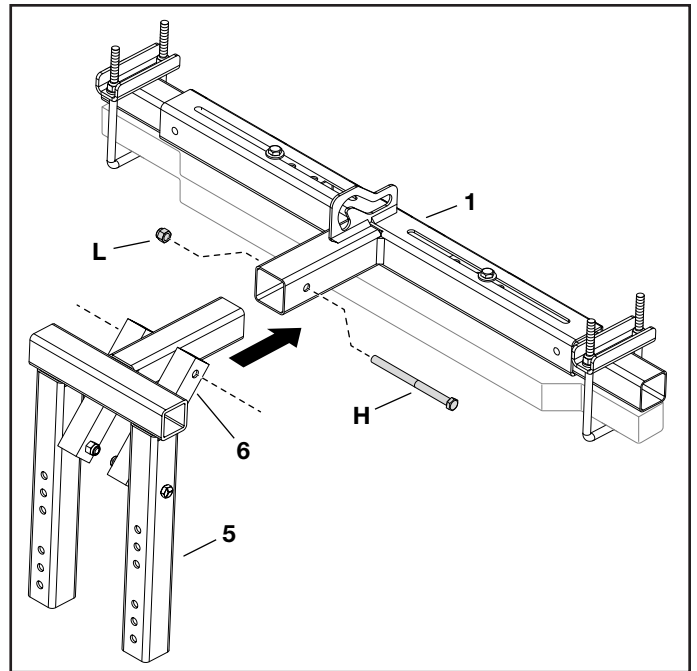

FIGURE 4
STEP 4: (SEE FIGURE 4)
- Slide the tube of the blade mount assembly (5) into the tube of the hitch mount assembly (1) and secure using a hex bolt (H) and a hex nut (L). Tighten hardware.